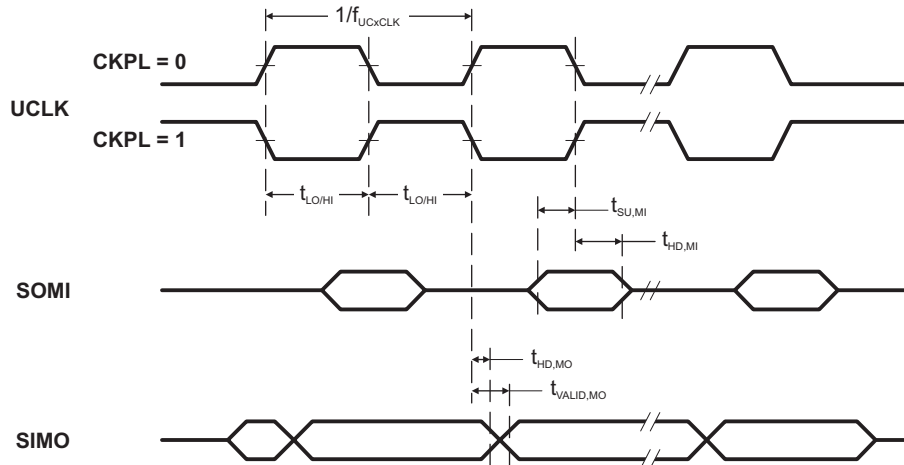
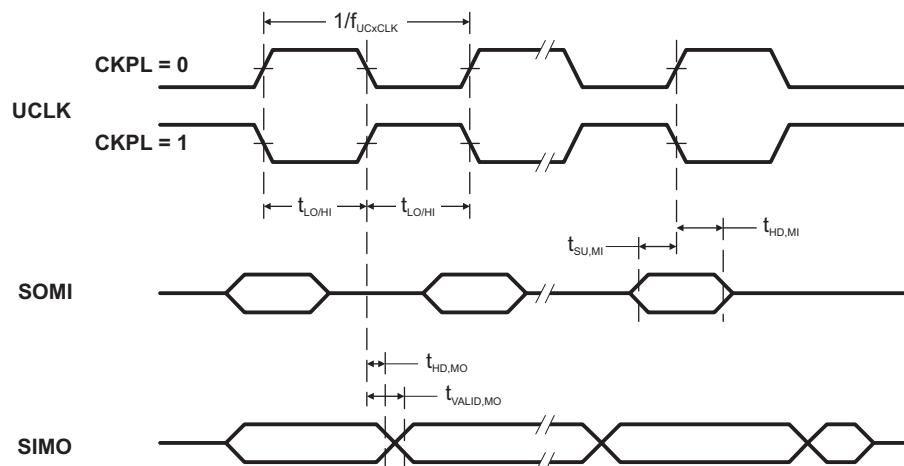

Figure 8. SPI Master Mode, CKPH = 0
Figure 9. SPI Master Mode, CKPH = 1
(see Note ⁽¹⁾, Figure 8 and Figure 9)
- (2) Specifies the time to drive the next valid data to the SIMO output after the output changing UCLK clock edge. See the timing diagrams in Figure 8 and Figure 9.
- (3) Specifies how long data on the SIMO output is valid after the output changing UCLK clock edge. Negative values indicate that the data on the SIMO output can become invalid before the output changing clock edge observed on UCLK. See the timing diagrams in Figure 8 and Figure 9.
- (2) Specifies the time to drive the next valid data to the SOMI output after the output changing UCLK clock edge. See the timing diagrams in Figure 8 and Figure 9.
- (3) Specifies how long data on the SOMI output is valid after the output changing UCLK clock edge. See the timing diagrams in Figure 8 and Figure 9.